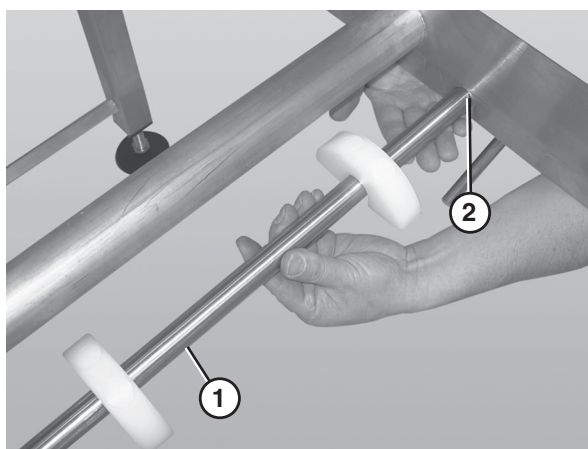

Figure 50
2. Slide the return shaft up (Figure 50, item 1) and through the large slot (Figure 50, item 2) in the frame (picture shown without the belt or wear strips).
3. Push up on the return shaft (Figure 50, item 1) and slide the notched end of the shaft through the small slot on the opposite side of the frame.